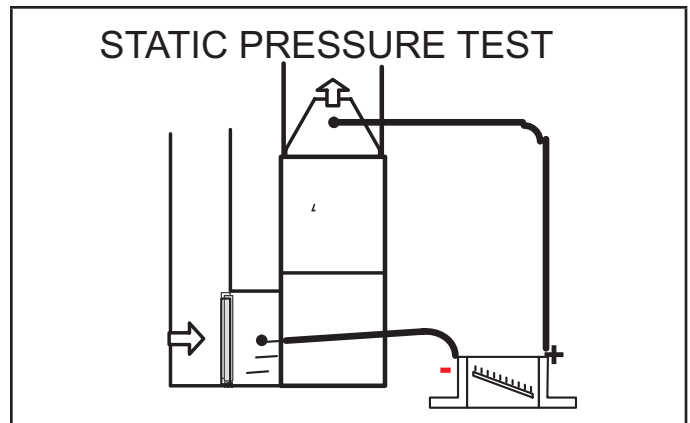

FIGURE 57
- 1 - Tap locations shown in FIGURE 57.